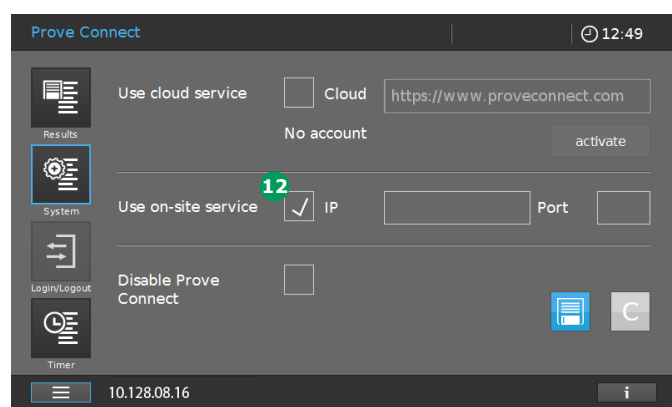

Figure 28 - Screen of "Prove Connect" menu
6. Set the checkmark for Use on-site service **12** (Figure 28).